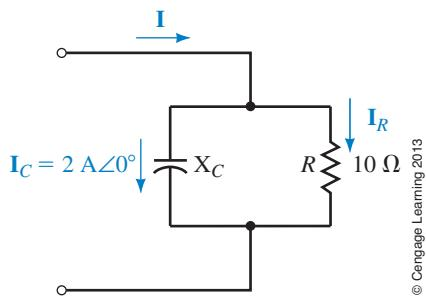

FIGURE 18-112
44. Assume that the circuit of Figure 18-112 has a current \mathbf{I} with a magnitude of 3 A: